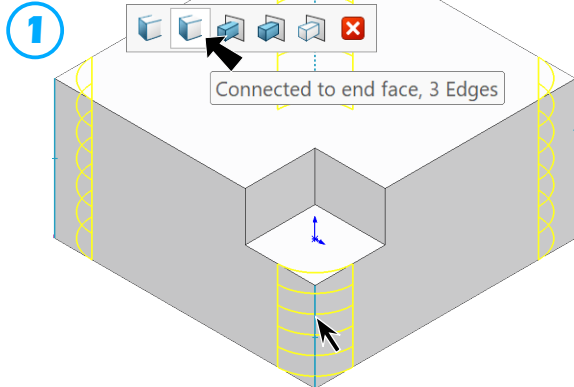

Fig. 14
① **Radius**  **4.6**
click vertical edge of Battery (1), Fig. 14